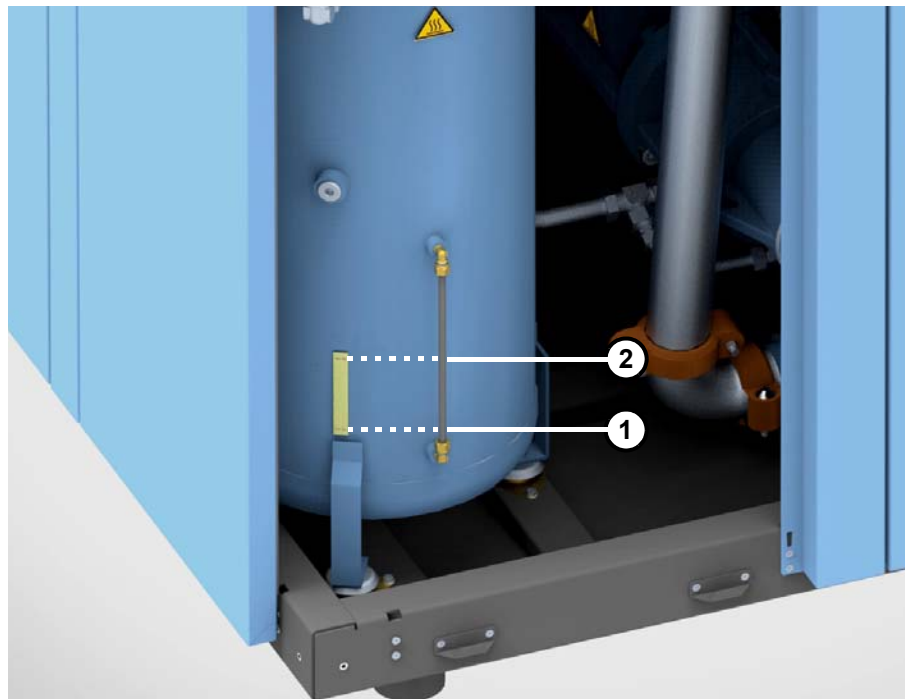

Fig. 6.6: Oil level display on the compressed air-oil container
- When the oil level is at or below the “Min” mark (see fig. 6.6).
1. Remove the side cladding from the machine so that the oil level display is visible on the compressed air-oil receiver (see figure 6.6).
3. Fill with oil to the "Max" (2) mark (see figure 6.6).
4. Check the new oil level on the oil level display (see figure 6.6).
- When the new oil level is at the "Max" (2) mark, the oil circuit contains sufficient oil.